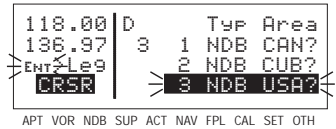

Figure 3-48
4. To select the desired waypoint, move the cursor over the appropriate choice (figure 3-48).